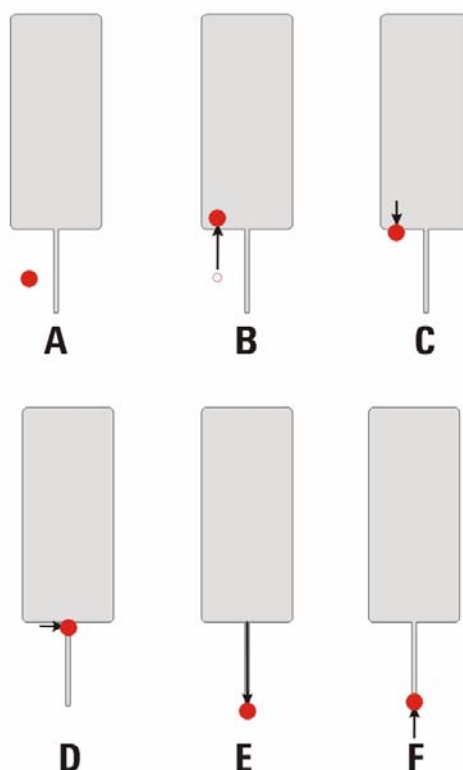

Figure 48 Steps to aligning laser on cantilever beam tip
- 3 Rotate the front-to-back knob clockwise to move the laser spot onto the cantilever chip (Diagram B in Figure 48). When the laser reaches the chip it will be blocked and will no longer be visible on the paper. You should only need to turn the knob a few rotations.
- 4 Rotate the front-to-back knob counterclockwise until the spot just reappears on the paper. The spot is now at the edge of the chip (Diagram C in Figure 48).
- 5 Rotate the left-to-right knob to position the laser on the cantilever (Diagram D in Figure 48). As the laser passes over the cantilever it will disappear and reappear in rapid succession. You should now see the laser spot on the scanner's frosted glass.
- 6 Turn the front-to-back knob counterclockwise to move the spot down the cantilever, toward the tip until the spot on the frosted glass disappears (and the spot reappears on the paper) (Diagram E in Figure 48).
- 7 Turn the front-to-back knob clockwise slightly to position the laser just on the cantilever tip (Diagram F in Figure 48). The spot will reappear on the ground glass.